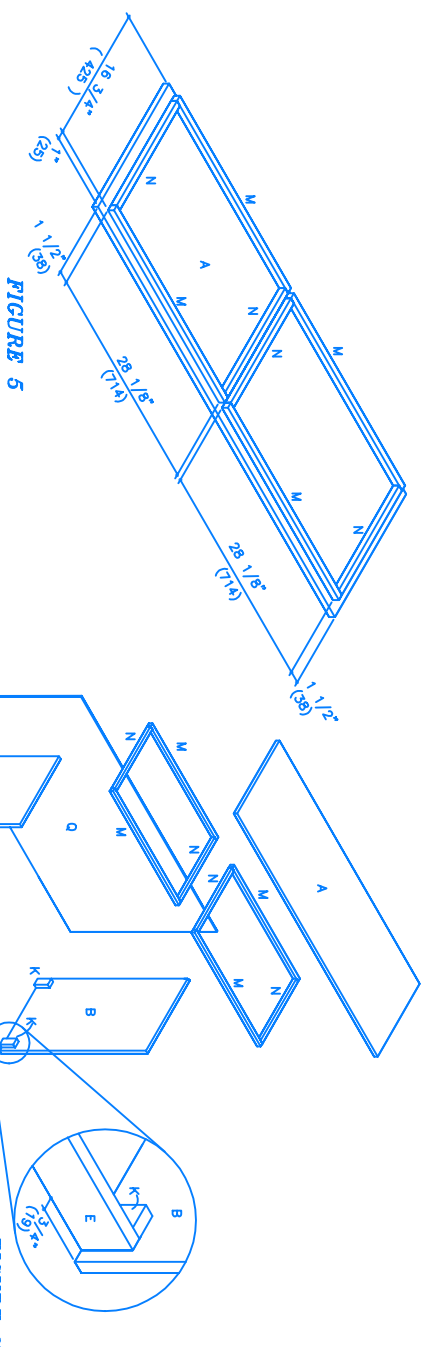
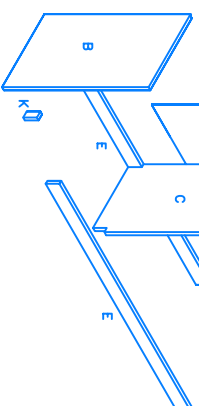

FIGURE 5
FIGURE 6
- 2) Assemble pieces M and N into rectangles on the underside of piece A as shown (Fig. 5). Note that the rear piece M is inset $1/4"$ from the back of A to allow clearance for piece Q. Drill four $1/8"$ holes in each M and three into each N, through M and N and slightly into A. Countersink these holes in M and N with a $3/8"$ drill bit to a depth of $1/4"$. Glue and screw these pieces to A with 1 $1/4"$ #8 flathead screws. Now, drilling from the insides, drill three more evenly spaced holes in each piece N to attach pieces B and C. Countersink with a $3/8"$ drill bit on the inside of the squares. Screw the outside pieces N to pieces B with 1 $1/4"$ #8 flathead screws, screwing through the holes you previously drilled in N. Glue and nail a piece E to the ends of two pieces K with 1 $1/4"$ finishing nails. Pre-drill through each K with two $1/8"$ holes and countersink on the inside with $3/8"$ drill bit. Glue and screw KE to pieces B with outside edge of piece E inset $1/4"$ from edges of pieces B being $1/4"$ from the end of piece E. Run bead of glue inside the rabbet in pieces B and position in piece Q, the rear edge of Q flush with the rear edge of A. Nail through Q into pieces M with $3/4"$ finishing nails. Nail through Q and into pieces B with $3/4"$ finishing nails. Glue the top and rear edges of piece C and slide into position. Screw through pieces N into C with 1 $1/4"$ #8 flathead screws (Fig. 6). Nail through Q into C and E with $3/4"$ finishing nails. Turn unit upright.